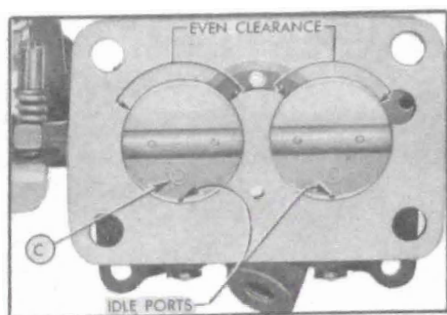

Figure 3-34—Installation of Throttle Valves
4. Install both throttle valves on shaft, using *new screws*. The small "c" in circle on valves must be toward idle ports and toward lower or manifold side of body flange. See figure 3-34. Back off throttle lever adjustment screw, fully close and center both valves in barrels of body flange, then hold valves firmly while tightening screws.
5. Hold body flange toward a light while slightly opening and closing valves to make certain they are centered in barrels. See figure 3-34. Support valve screw heads on suitable